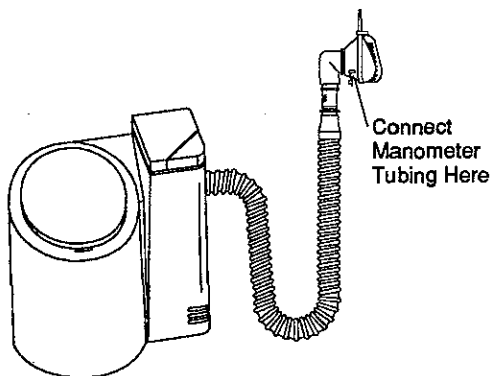

Figure 1
- d. **Option 1** - Connect manometer tubing to the outlet port on the mask (Figure 1).